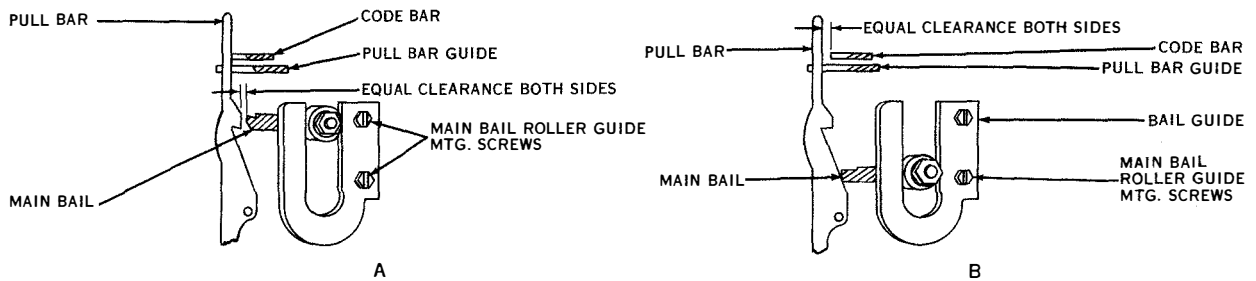

Figure 7-40. Main Bail Roller Guide
(29) MAIN BAIL GUIDES. (See figure 7-40.)—The main bail should be free throughout its travel and the roller guides should be positioned so that the requirements specified in subparagraphs (30) PULL BAR GUIDE, (31) MAIN BAIL ADJUSTING SCREW (PRELIMINARY), and (60) MAIN BAIL ADJUSTING SCREW (FINAL) can be met.